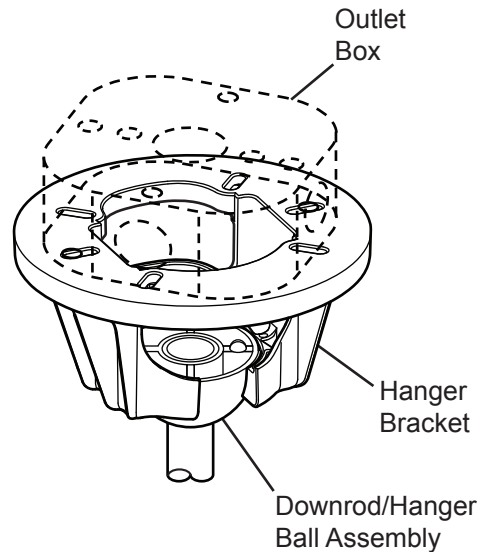

Fig. 8
3. Carefully lift the fan and seat the downrod/hanger ball assembly on the hanger bracket that was just attached to the outlet box (Fig. 8). Be sure the groove in the ball is lined up with tab on the hanger bracket (Fig. 8).